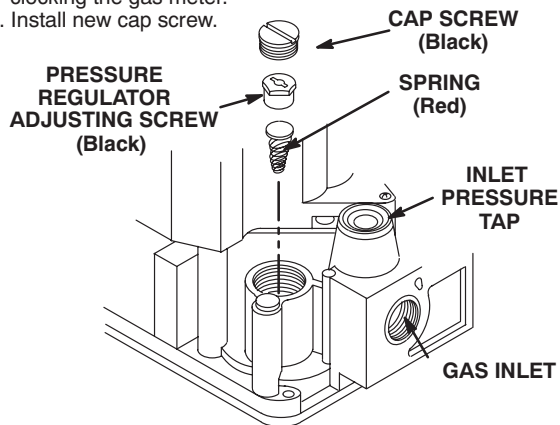

Figure 2
- 5 - Install gas valve conversion kit. Refer to manufacturer's instruction packed in valve conversion kit. See figures 2 and 3.
- 2 - After gas line pressure has been checked and adjusted, check manifold pressure at the pressure tap on the outlet side of the gas valve. The correct manifold pressure for LP/propane gas is given in table 2. Refer to figures 2 and 3 for gas manifold pressure adjustment screw location and unit rating plate for input value.